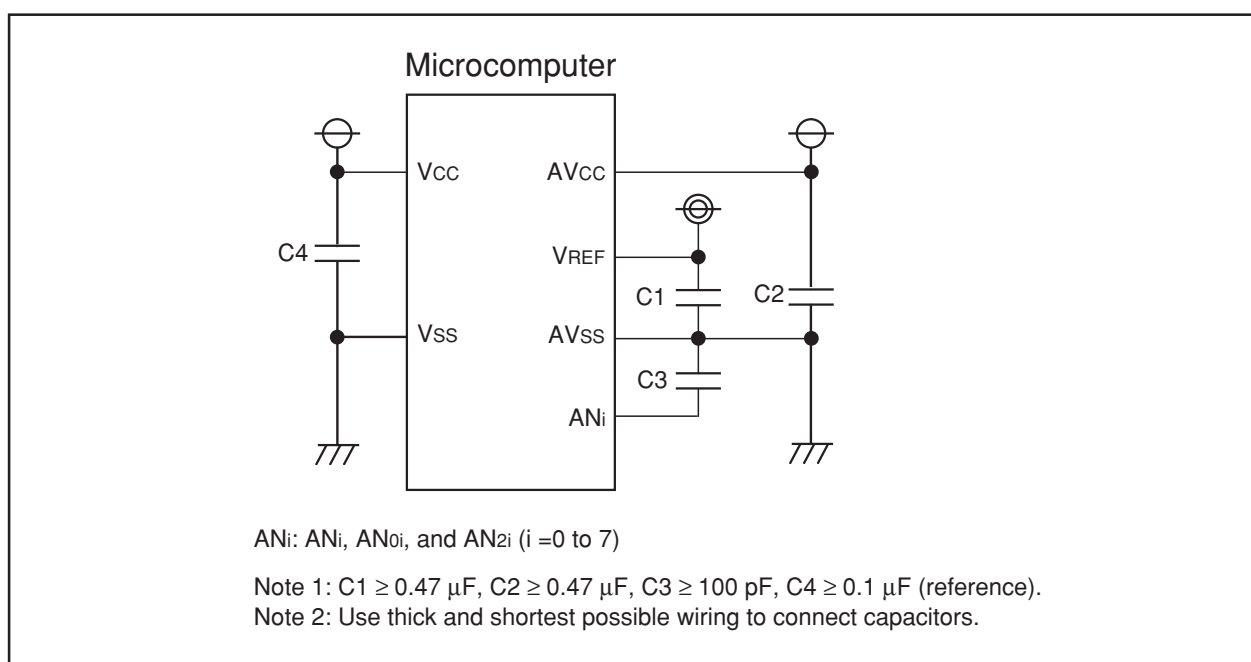

Figure 1.10.1 Use of capacitors to reduce noise
3. To prevent noise-induced device malfunction or latchup, as well as to reduce conversion errors, insert capacitors between the AV_{CC} , V_{REF} , and analog input pins (AN_i ($i = 0$ to 7), AN_{0i} , and AN_{2i}) each and the AV_{SS} pin. Similarly, insert a capacitor between the V_{CC} pin and the V_{SS} pin. Figure 1.10.1 is an example connection of each pin.